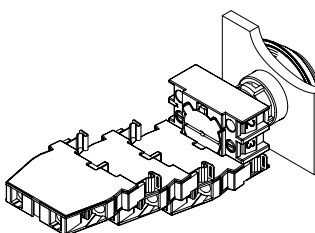
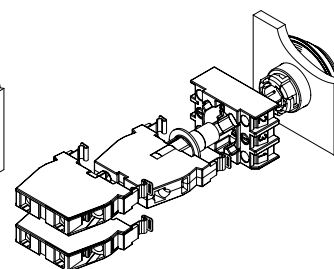

Fig. 2
Fig. 3
2. Mount contact elements of EF contact system by snapping on in positions 1 to 3 to mounting flange (see Fig. 2). Middle position (pos. 3) is reserved for mounting lighting elements on devices with lights (see fig. 3).